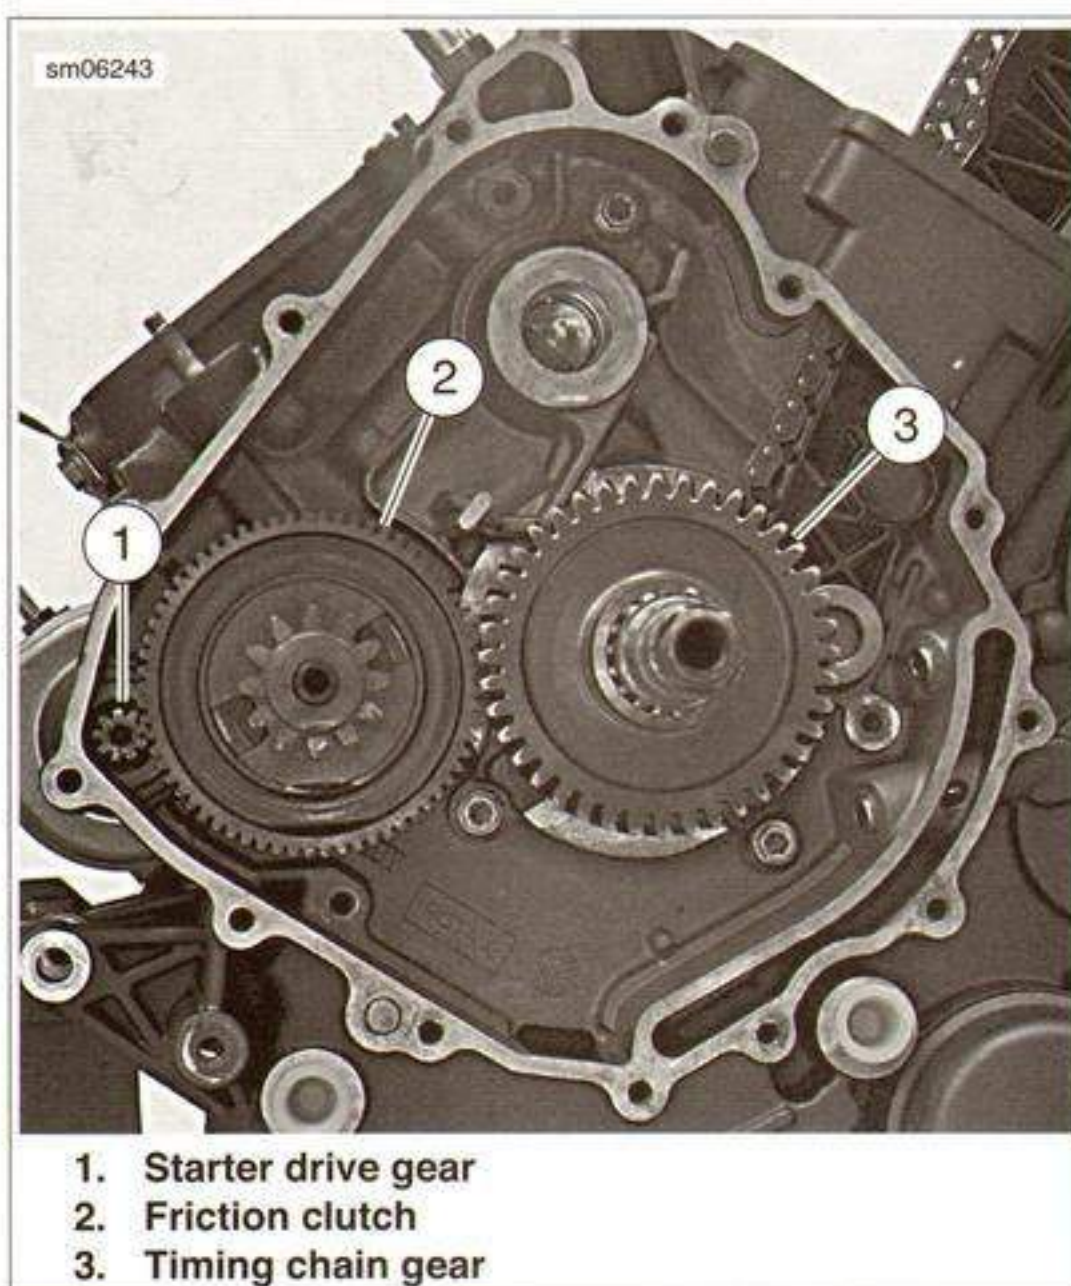

Figure 3-170. Alternator Side
6. See Figure 3-170. Remove timing chain gear (3), friction clutch (2) and starter drive gear (1).